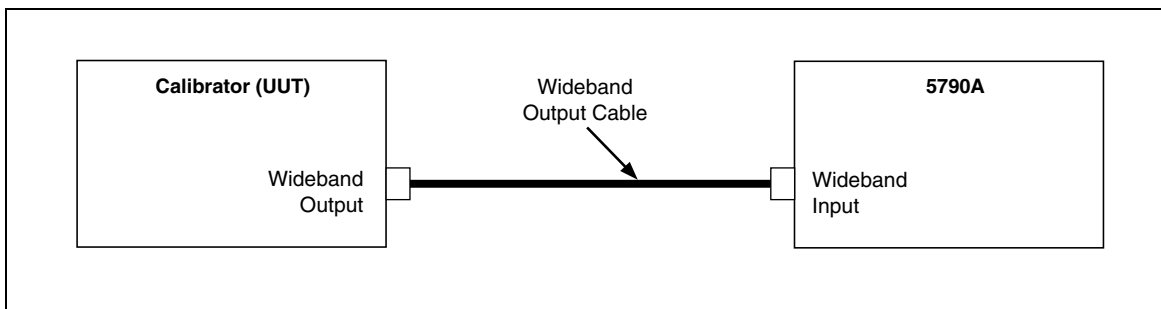

Figure 3-15. Wideband Flatness Test Setup
1. Connect the equipment as shown in Figure 3-15. Note that the Calibrator wideband cable is connected to the 5790A directly, the termination is not used.